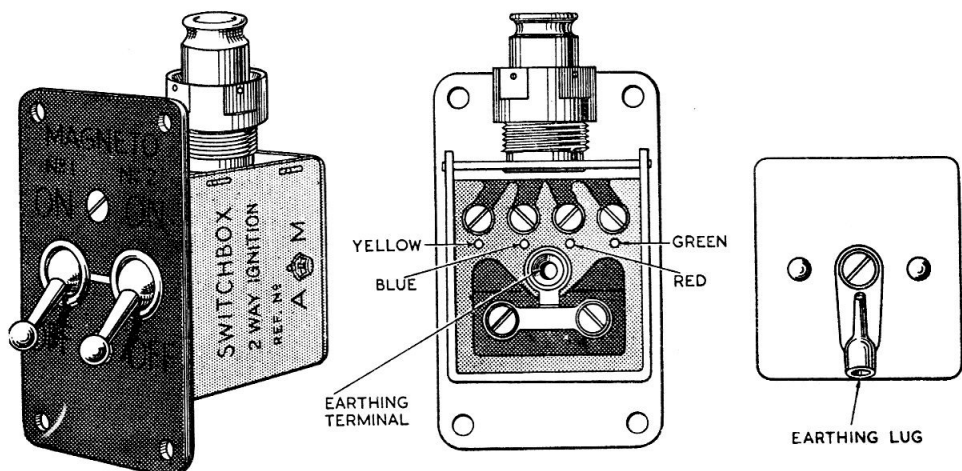

Fig. 1. Ignition switchbox, 2-way, Type D
3. The 2-way ignition switchbox, Type D (*fig. 1*) is for use on certain single-engined aircraft, and incorporates two toggle-type ignition switches which are mounted side by side in a screening case. The four terminals are marked with coloured identification dots, green, red, blue and yellow respectively, and the leads enter the switch at a single cable